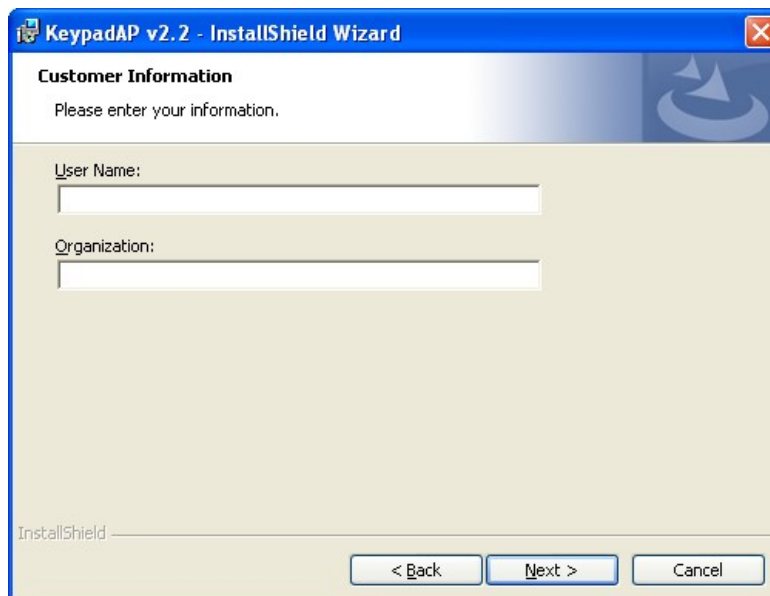

Figure 6-34: Customer Information Screen
Step 5: The **Customer Information** appears as shown in **Figure 6-34**.